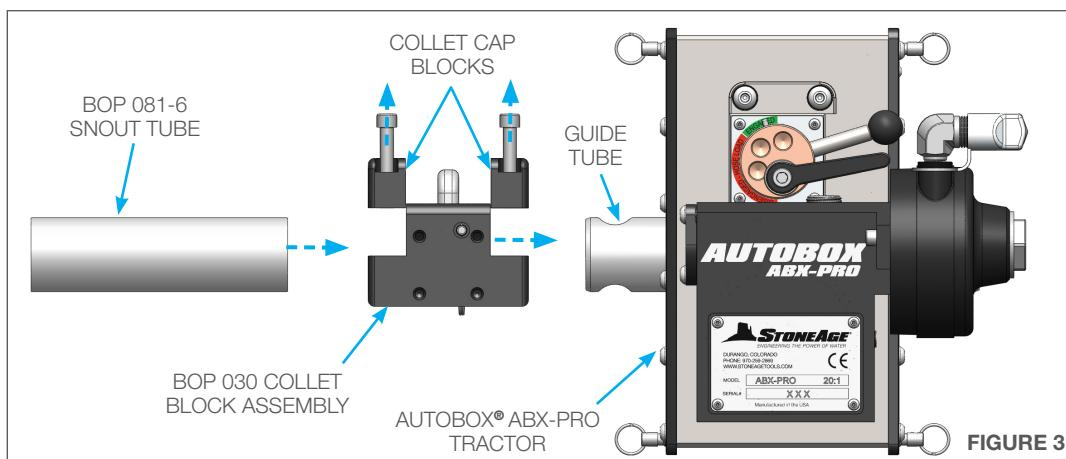

FIGURE 3
3. Loosen the screws on both collet cap blocks. Slide the BOP 030 Collet Block Assembly onto the guide tube on the ABX-PRO and tighten the two screws until secure. Slide the BOP 081-6 Snout Tube into the BOP 030 Collet Block Assembly. Push the Snout Tube in until it stops, then tighten the two until secure. (**Figure 3**)
- Insert the BOP 058 Female Positioner Assembly into the Hinge Clamp Assembly then close the Hinge Clamp Assembly and tighten the Adjustable Handle. The Female Positioner height can be adjusted in the open or closed position and is designed to be adjustable based on the size of the pipe. **(Figure 3)**
3. Rotate the Cam Lever clockwise to the “**Engaged**” position to tighten the Idler Roller down onto the hose. There should be a slow slip on the hose. If the slip is too tight or loose, move the Eccentric Lever off until a slow slip is obtained. Once the slip level is achieved, push down on the Adjustable Handle to tighten the bushing assembly. (**Figure 3**)